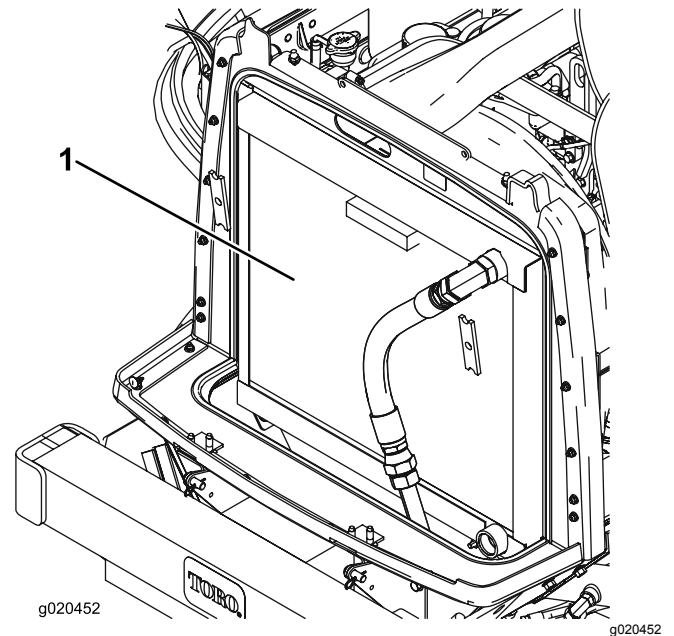

Figure 97
3. Clean both sides of the radiator/oil cooler area thoroughly with compressed air (Figure 97).